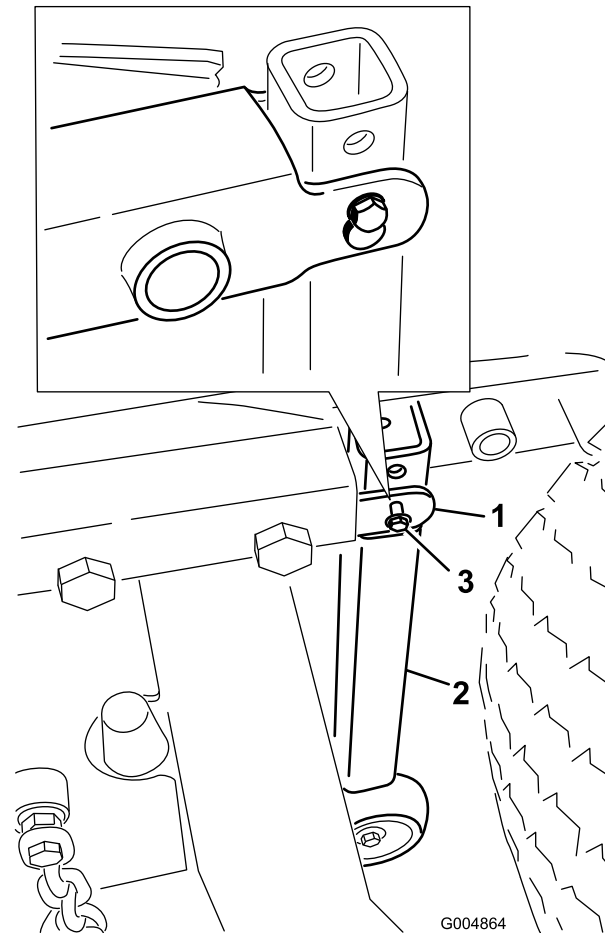

Figure 97
- Install the vertical tube support assembly to each rear corner of the deck frame with a clevis pin and a 5-16" self-tapping screw pin retainer (Figure 97).